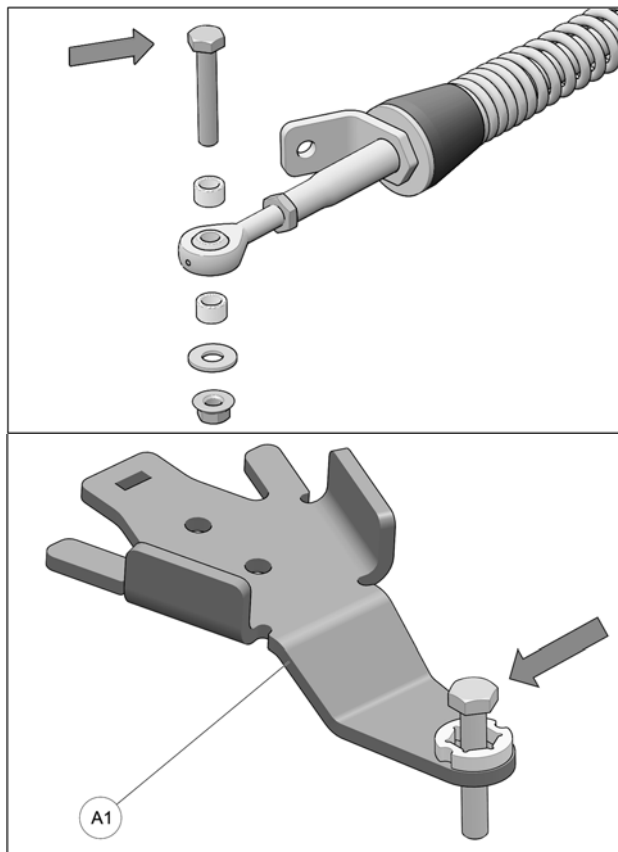

Fig. 10
4. Remove bolt, washer and bushings from front stabilizing rod end and insert bolt in front anchor bracket (A1) as shown in Fig. 10